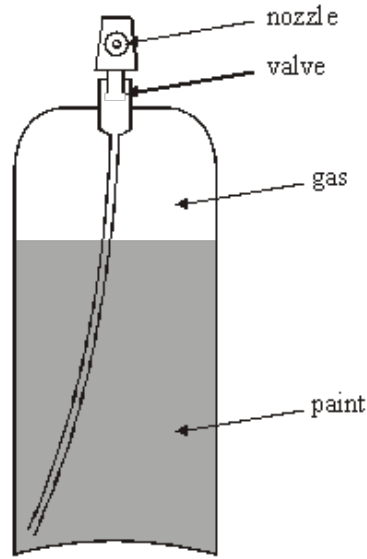

Figure 1
- Q11.** A spray can contains liquid paint with compressed gas in the space above it, as shown in **Figure 1**. Pressing down the cap opens a valve which allows the gas to expand, forcing paint through the nozzle. The cap is pressed until all the paint is expelled, leaving the can filled with gas at a pressure which is still greater than atmospheric.